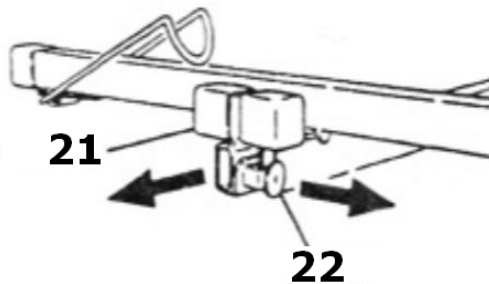

Figure 4
- Slide the extendable arms [21] in the cradle, with the holes facing the pin locks [22] (see figure 4).